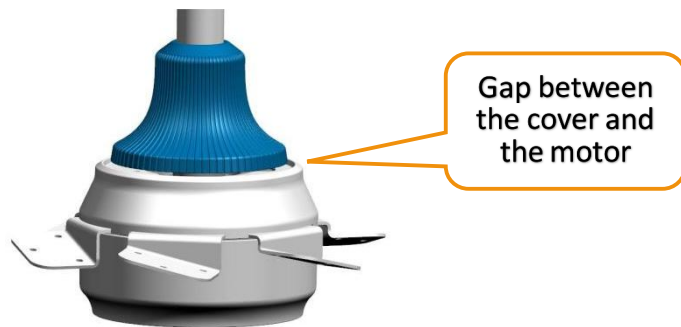

Figure. 4.3
- ⑤ Push the lower decorative cover downward to cover the installations on motor shaft, where there are two pre-installed M4*10 hexagonal screws on extension tube that prevent the lower cover from sliding down. Please be aware there should be a gap between the cover and the motor (see Figure 4.3)